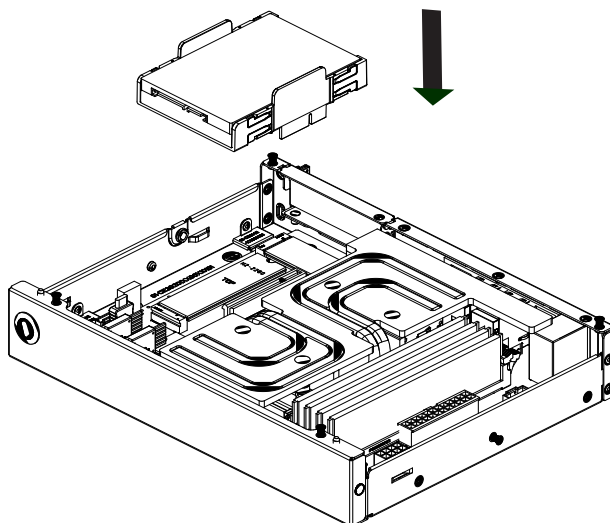

Figure 3-5. Preparing to Install the Hard Drive
5. Slide one 2.5" 7mm drive into the top slot of the mounting tray. See Figure 3-5.